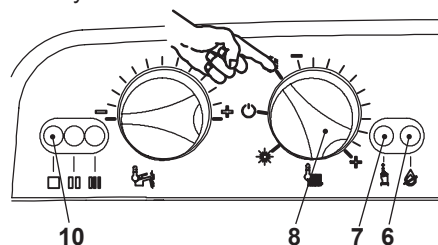

Fig. 7.7
- Turn the function selector 8 as in Fig. 7.7. The appliance operation light 10 will flash every 2 seconds.